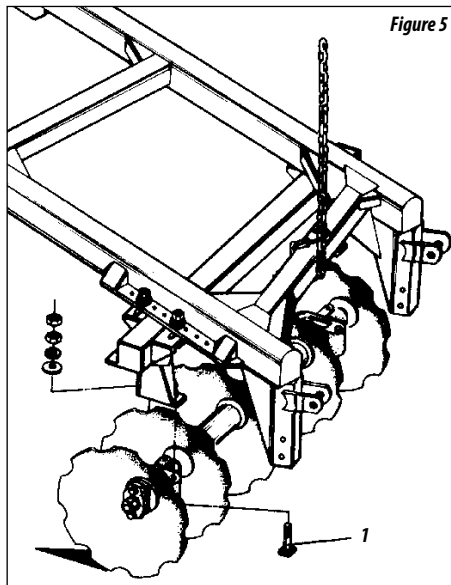

Figure 5
- 03 - Put on the axle (1), the concave washer (2), washer (3), a nut (4), lock (5) and fix with the bolt (6) according to figure 5.